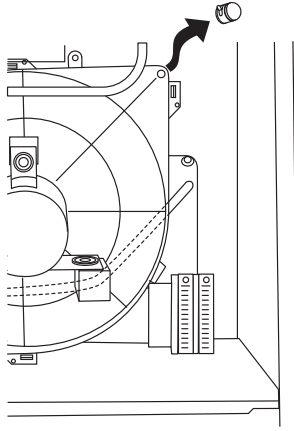

Fig. 35 - Upper Inducer Housing Drain Connection Cap
4. Remove upper inducer housing drain connection cap. (See Fig. 35.)